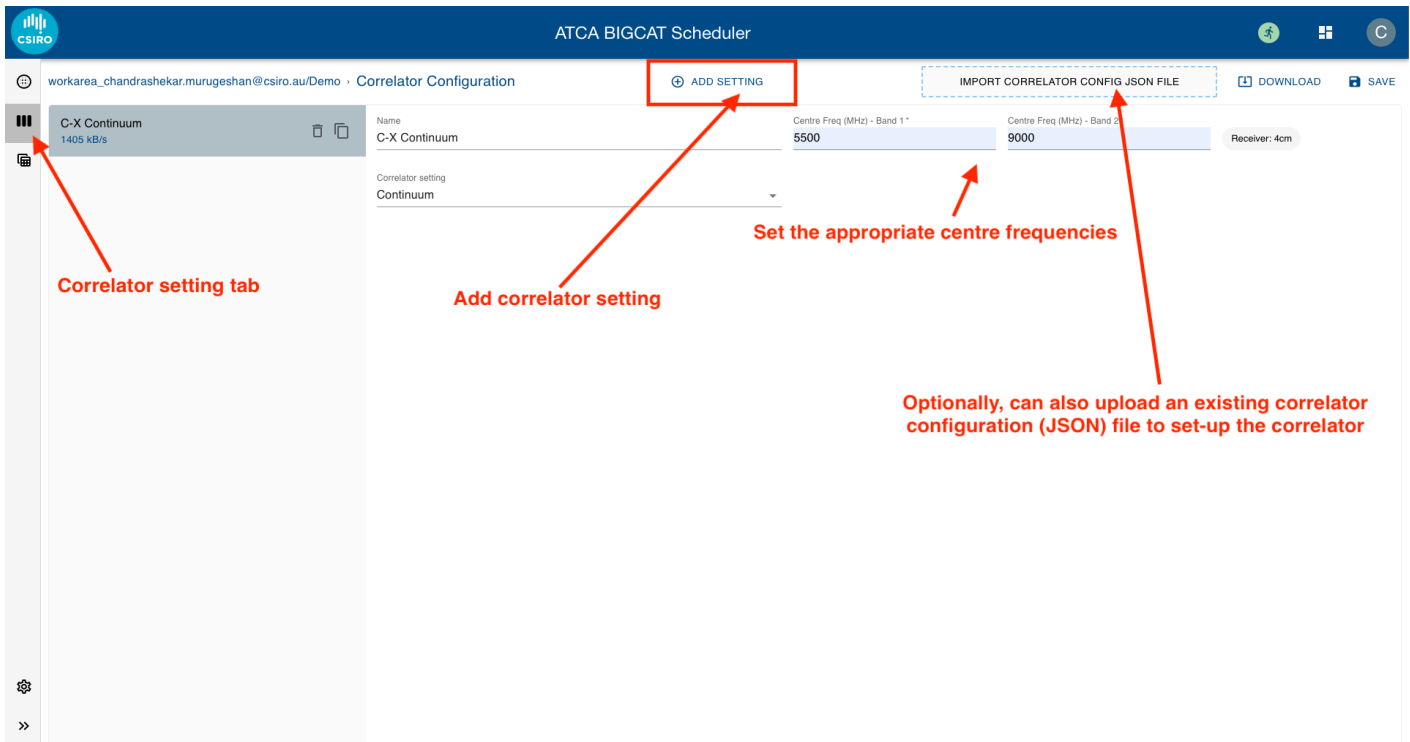

Figure 7: Setting-up the correlator configuration for the observations.
- Next, we can add the correlator configuration we want to use for our observations. Click on the “Correlator Config” button on the top left to create new correlator modes. Note, you can create several modes and can use those when creating the schedules in the later steps. Make sure to save the configuration before moving on to create the schedule. For more information on the available frequency bands/modes, click on the information symbol (i). See Fig. 7 below.